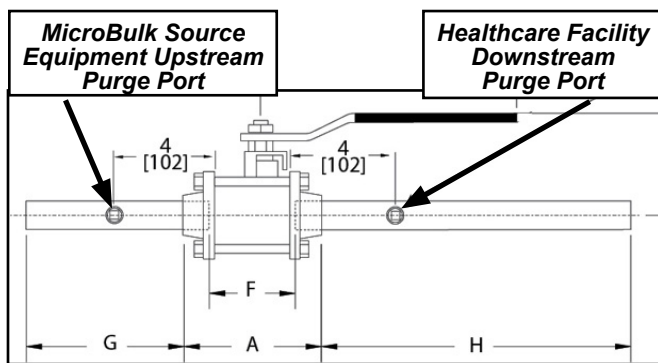

Figure 12 - Purge Ports on Source Valve
- Brazing must be completed under an NF nitrogen purge by personnel qualified in accordance with ASME Section IX certifications, until the joint is cool to the touch. Use 1/8 inch port above valve (V-7) (see Figure 11) for purging and/or the purge port on the upstream side of the source valve if so equipped (see Figure 12).
- Pressure up main gas supply line through the upstream purge port of the facility source valve if so equipped (see Figure 12). Pressurize system to a minimum of 1.5 times the normal working pressure (see Appendix 2, table 1, Primary Reg-R2) and hold pressure for 10 minutes while leak checking each joint with an approved leak detection method.